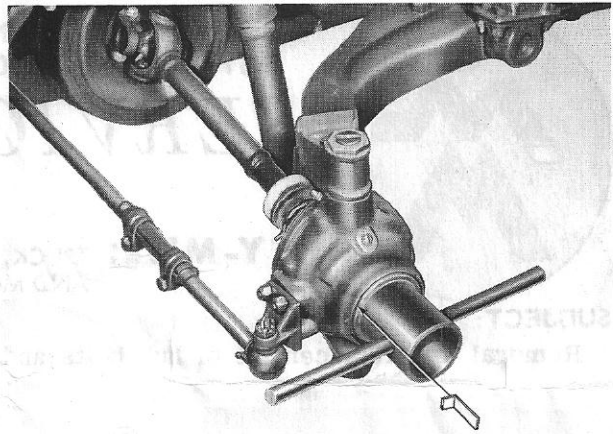

Figure 7.
- Straighten bearing adjusting lock (which secures front wheel bearing adjusting nut) clear of locking slot in nut, and remove bearing adjusting nut, using wrench 7083688. Discard bearing adjusting lock (fig. 7).